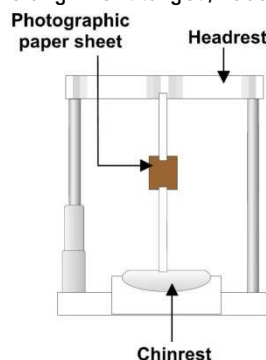

Figure 1: Piece of photographic paper in position
1. Attach a piece of photographic paper on the alignment target / focusing bar (See Figure 1)
1. Attach a piece of photographic paper on the alignment target / focusing bar (*See Figure 1 in the above section 2.2.3*)